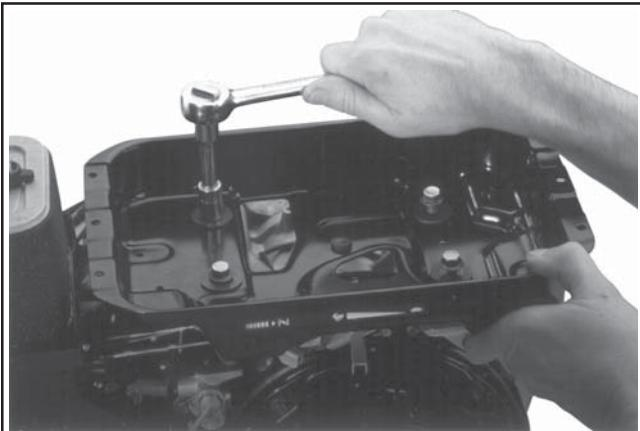

Figure 11-112. CS8.5 (spec. 95xxxx) Installing Fuel Tank Support.
1. Install the fuel tank support to top of crankcase. Align the four mounting holes with the crankcase locations. Install and finger tighten the four M8 hex flange screws, with flat washers under each head. Install the single M6 hex flange screw in the hole, as shown, and thread it into the throttle control bracket. Torque the four M8 screws to 27-31 N·m (238-274 in. lb.) and the single M6 screw to 8-12 N·m (71-106 in. lb.). See Figure 11-112.